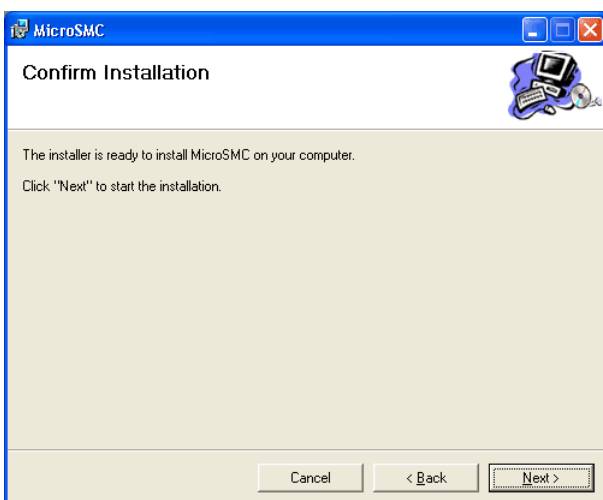

Figure 48. MicroSMC 3rd installation screen
- Installer is ready to install MicroSMC on your computer (see Figure 48). Press "Next>" button.